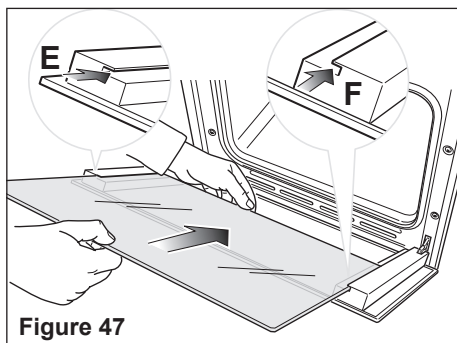
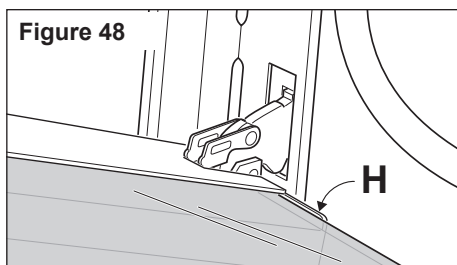

Figure 47
Figure 48
- Insert the pane in the left "E" and right "F" slide guides (fig. 47), and gently slide it to the retainers "H" (fig. 48).